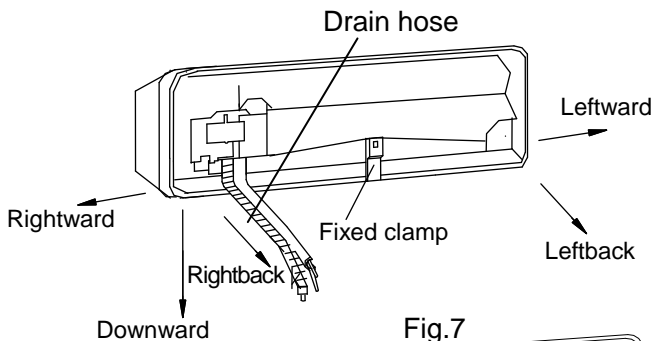

Fig.7
NOTE : 1. Left chart is available for the position of drain hose. Refer to Fig.7.
1. Connecting right back tube (similar to right lower tube) (optional, Refer to Fig.7)